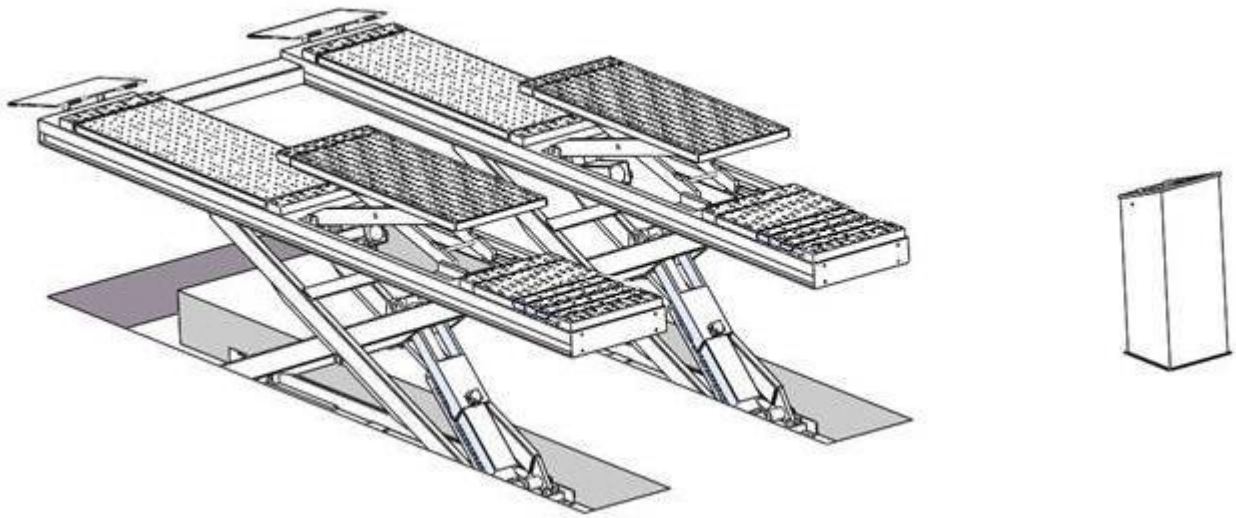

Fig. 6
2.2 Illustration of DX-12A flush mount installation (**Fig.6**).